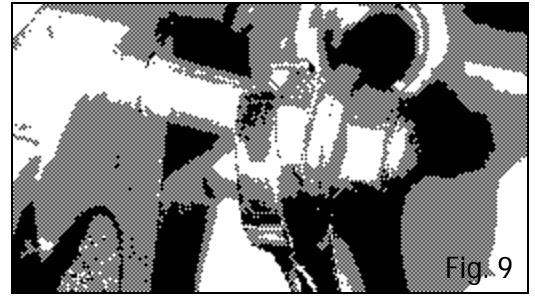

Fig. 9
2. Remove the idle air control motor (IAC) from the factory intake manifold and install onto the Performer X intake manifold. In automatic transmission applications, install the supplied IAC cover plate and gasket onto the IAC flange on the Performer X intake manifold using two of the supplied 8mm x 1.25, 20mm long socket head cap screws, and leave the factory IAC motor installed on the stock throttle body. Remove the throttle body, and two throttle body studs from the factory intake manifold. Using two nuts on the studs, and jamming them, will help get the studs out of the stock intake manifold (See Fig 9). Install the two throttle body studs into the Performer X intake manifold, one on the upper right bolt hole of the throttle body mounting flange and one on the lower left bolt hole. Install the stock throttle body and gasket onto the Performer X manifold. Remove the stock throttle cable bracket and install onto the Performer X manifold using the stock bolts. Remove the stock fuel rail / injectors / purge valve / fuel pressure regulator and install onto the Performer X manifold using the stock hardware (Inspect all O-Rings and Seals for wear, replace if necessary).